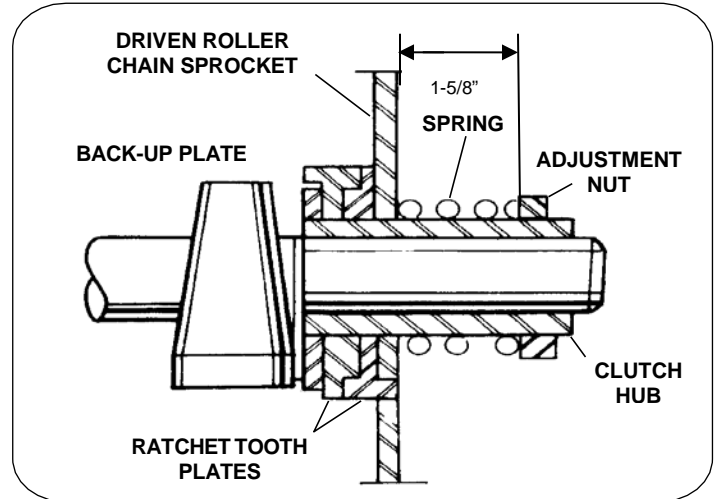

FIG. 18 Ratchet Slip Clutch Assembly
6. Tighten the adjusting hex nut until there is 1-5/8" minimum between the spring side of the hex nut and the spring side of the sprocket. See Figure 18.